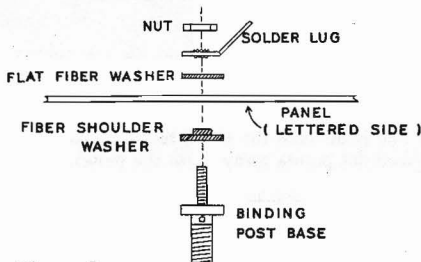

Figure 5
- (✓) Observe Pictorial 1 at the top of Page 10. Mount the ANT. binding post using a fiber shoulder washer, fiber flat washer, solder lug and 6-32 nut. Make sure that the shoulder washer is centered in the hole and tighten securely. See Figure 5.